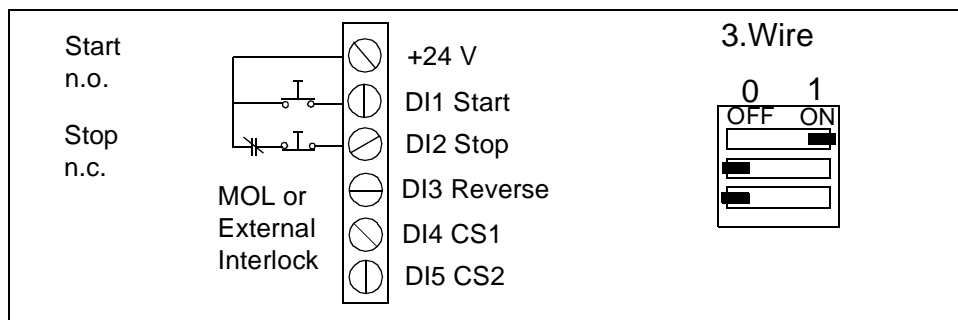

Figure 4-4 3-wire recommended cabling and switch S1 selection.
- 3-wire, refer to Figure 4-4, Table 4-5 and Table 4-6
- 3-wire 2, refer to Figure 4-4, Table 4-7 and Table 4-8